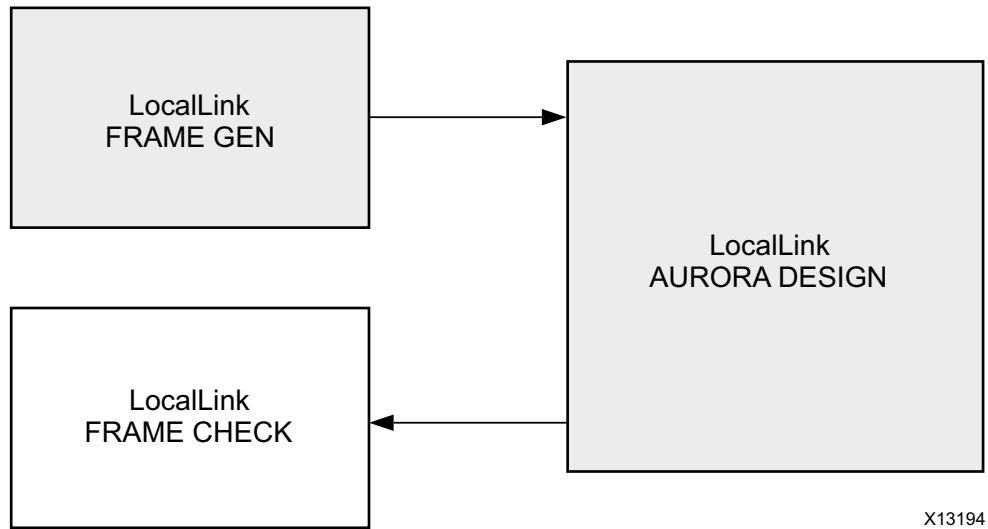
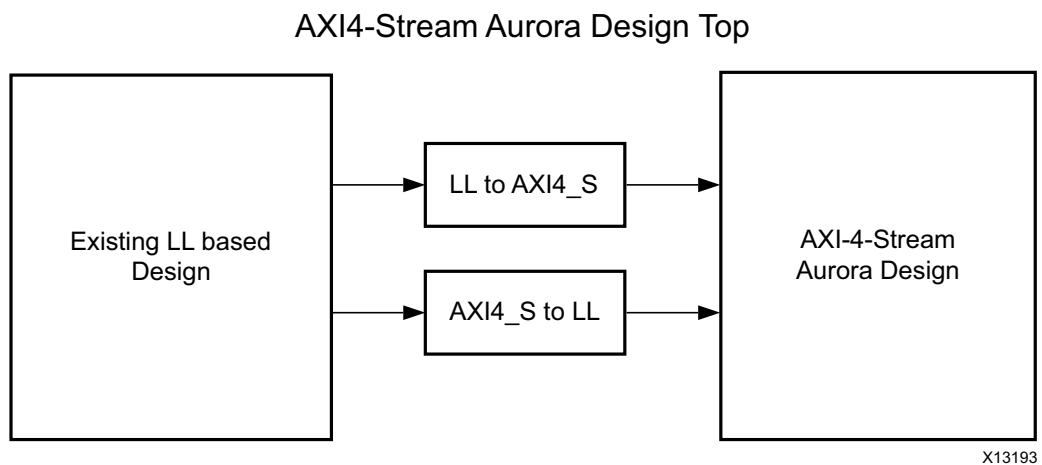

Figure B-1: Legacy Aurora Example Design
Figure B-2: AXI4-Stream Aurora Example Design
Figure B-1 shows an example Aurora design using the legacy LocalLink interface. Figure B-2 shows an example Aurora design using the AXI4-Stream interface.
2. See Figure B-2, page 94 for the emulation of an LL Aurora core from an AXI4-Stream Aurora core.
5. Connect the shim and AXI4-Stream Aurora design as shown in Figure B-2, page 94.